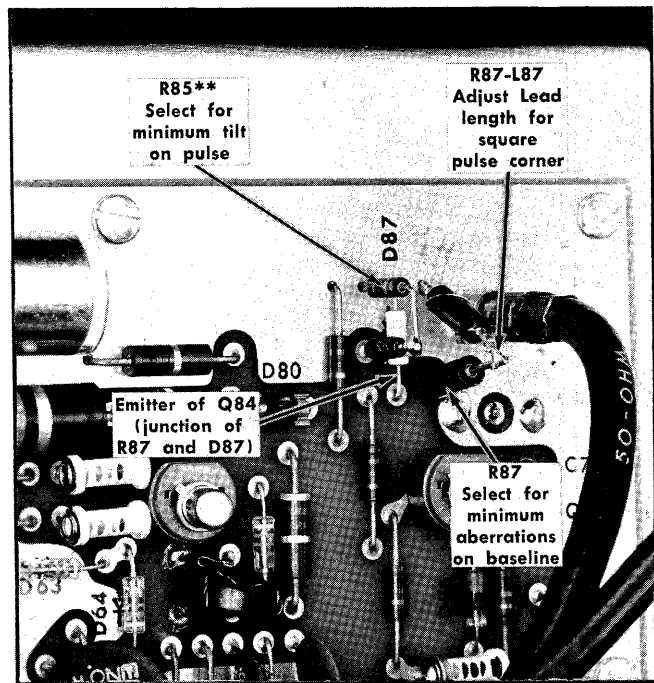

Fig. 5-7. Locations of R85** and R87 at output of avalanche circuit. See text for selection procedures.
(1) Unsolder R85 from the circuit, using the precautions for etched wiring board soldering given in the Maintenance section. See Fig. 5-7 for the location of R85.
(1) Unsolder R87 from the circuit, using the precautions for etched wiring board soldering given in the Maintenance section. See Fig. 5-7 for the location of R87.
(2) Note the value of the resistor that was removed.
(3) Select one or two 1/2-watt resistors of a higher value and one or two of a lower value than the one removed. The general range of resistance values is from 39 to 100 ohms.
(4) Clip one end of each resistor to match the short end of the resistor that was removed.
(5) Place each of the selected resistors temporarily in the circuit and observe the change produced in the display. With the correct value of R87, the baseline following the pulse will be flat with no large irregularities.
(6) Solder the short end of the new R87 to the etched wiring board connection.
(7) Before soldering the second lead of R87, touch it to the lead of L87 and observe the pulse at an equivalent sweep rate of 5 nsec/div.
(8) Move the resistor lead to change its effective length in series with L87 until the squarest possible leading corner is obtained on the pulse with minimum aberrations on the top and the baseline following the pulse.
(9) When the correct lead length has been determined, clip off the excess lead length and solder the resistor to L87.
h. Move the tip of the vertical input probe to the emitter of Q84 (see Fig. 5-7).